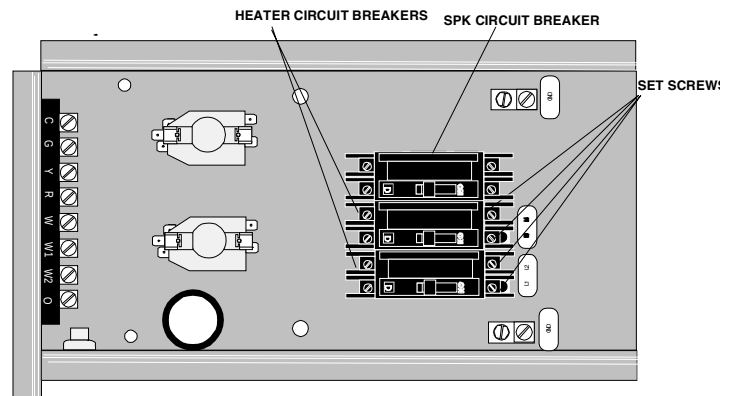

Figure 2
3. Move white tab on circuit breaker to the right and insert SPK circuit breaker in the open slot above the heater circuit breakers (Figure 2).